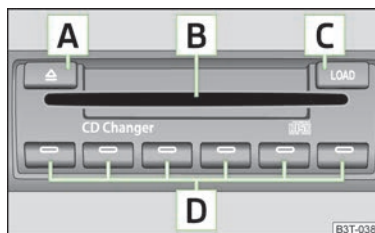

Fig. 133
- Touch the button [C] » Fig. 133 and guide the CD (compact disc) into the CD-case [B]. The CD is automatically loaded onto the lowest free position in the CD changer. The indicator light in the corresponding button [D] stops flashing. ▶
- Press and hold the button **C** » Fig. 133 for longer than 2 seconds and guide the CDs one after the other (maximum 6 CDs) into the CD case **B**. The indicator lights in the buttons **D** stop flashing.
- Press the button **C** » Fig. 133. The indicator lights in the buttons **D** illuminate the memory spaces that are already assigned and flash in the case of free memory spaces.
- Press the button **A** » Fig. 133 to eject a CD. For assigned memory spaces, the indicator lights now illuminate in the buttons **D**.
- Press and hold the button **A** » Fig. 133 for more than 2 seconds. All CDs in the CD-changer are ejected consecutively.
- Always guide the CD into the CD case **B** » Fig. 133 with the printed side facing upwards.